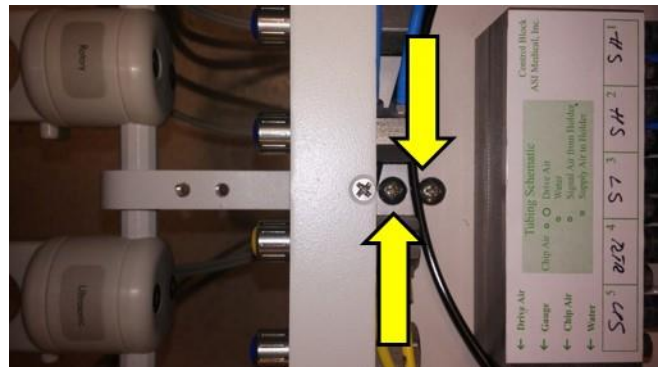

Fig. 3
5. Attach bar using two (2) 10x32" round head screws through drilled holes. (Fig. 3)